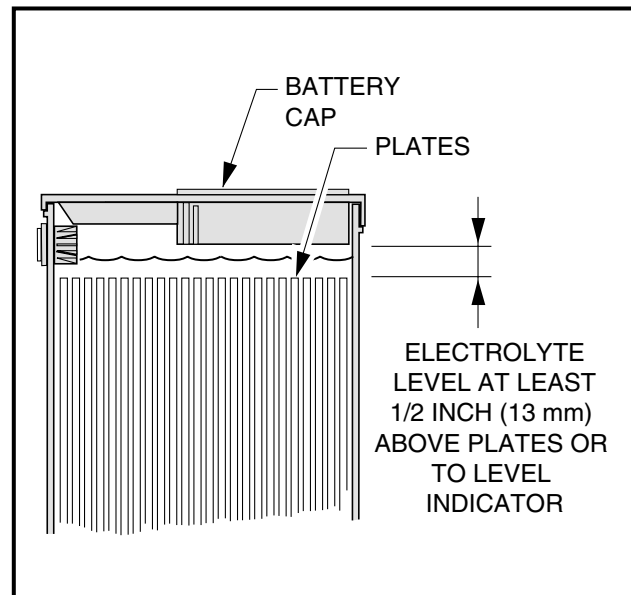

Figure 11-24 Battery Electrolyte Level
1. Be sure that the battery has sufficient water to cover the plates by approximately 1/2-inch (13 mm) and is fully charged prior to beginning the test. If water must be added, recharge the battery before performing the hydrometer test (**Figure 11-24, Page 11-23**).